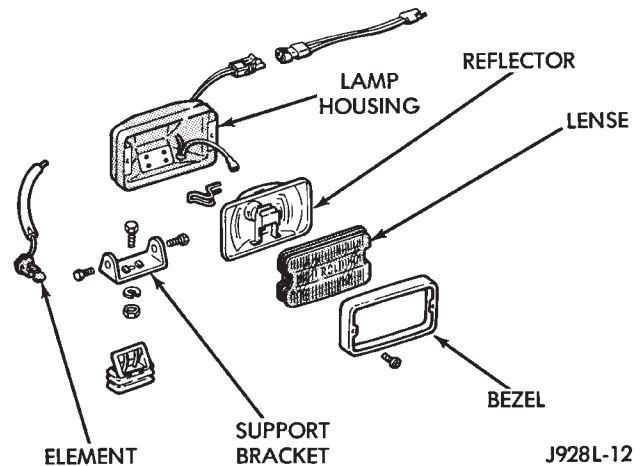

Fig. 36 Fog Lamp—XJ Vehicles
(2) For XJ vehicles, remove the screws that attach the bezel and lens to the lamp housing. Remove the bezel and the lens from the lamp housing (Fig. 36).
- (1) Disconnect the battery negative cable.
- (2) Remove the I/P shroud retaining screws (Fig. 36).